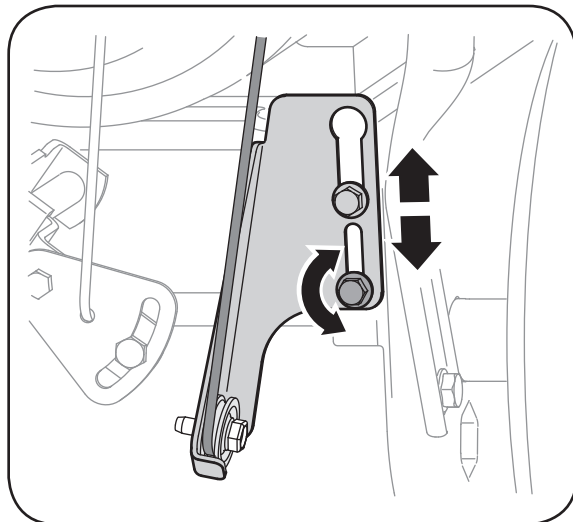

Figure 5-4
5. Loosen the lower hex nut on the drive cable bracket. See Figure 5-4.